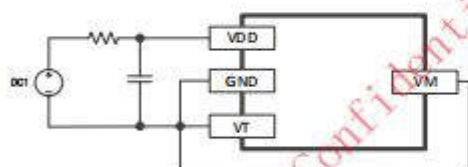

Figure6-5
- As shown in the figure6-5, connect the positive pole of DC1 to B +, and the negative pole to GND, and set the voltage to 3.6V;